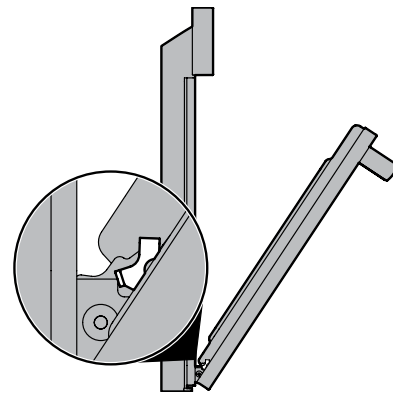

Figure 14: Removal position
3. Grasp the door by the sides, and close the door until the door frame makes contact with the unlocked hinges (Figure 14).
2. Hold the oven door at the same angle as the removal position (Figure 14) Carefully insert the hinge levers into the oven frame until you feel the hinge levers are seated into the hinge notches. The hinge arms must be fully seated into the hinge notches before the oven door can be fully opened.